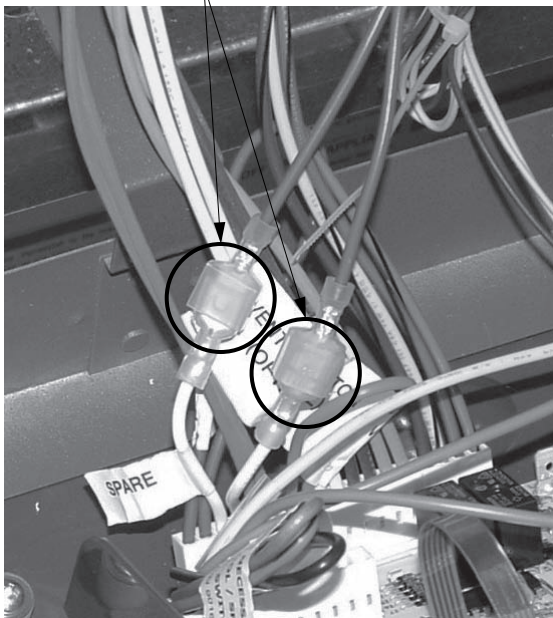

Fig 4: "Spare" Jumper Connections
19. Plug the connectors from the flow switch wire harness into the connectors just installed on the white "spare" jumper. See Fig. 4.